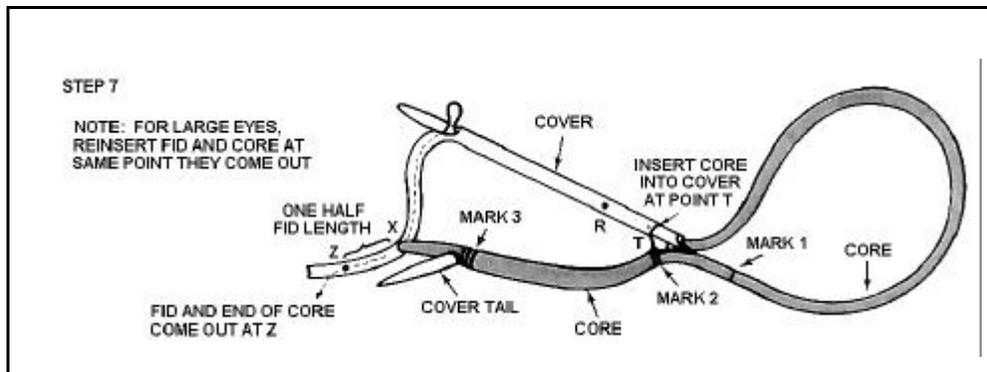

Figure 12-58. Reinserting the Core Into the Cover
- STEP 7 -- Reinserting the core into the cover.** From point X on cover, measure approximately one-half fid length toward slip knot on line and mark this as point Z (see Figure 12-58, page 12-50). You are now ready to put core back into cover from point T to point Z. Insert fid at point T. Jam the taped core end tightly into end of fid. With pusher push fid and core through cover "tunnel," past point X, to and through cover at point Z. When using wire fid, attach fid to taped core. After fid is on, milk braid over fid while pulling through from point T to point Z. When pushing fid past point X to point Z, make sure fid does not catch any internal core strands.